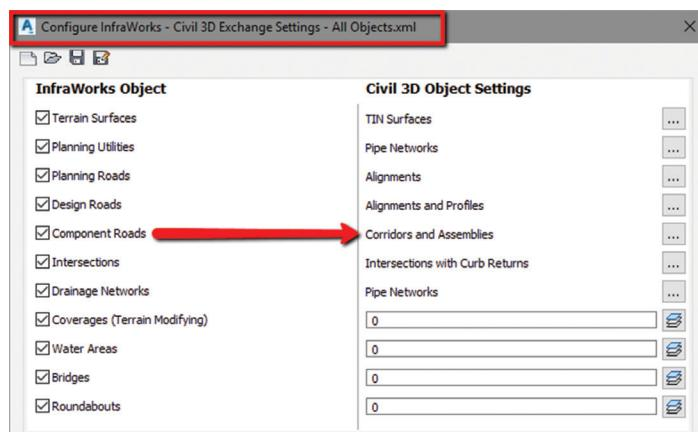

Figure 9
- Infraworks Component Roads now translate directly into a Civil 3D corridor! In the Civil 3D exchange settings, you can now set default setting to get your corridor to translate correctly (Figure 9).